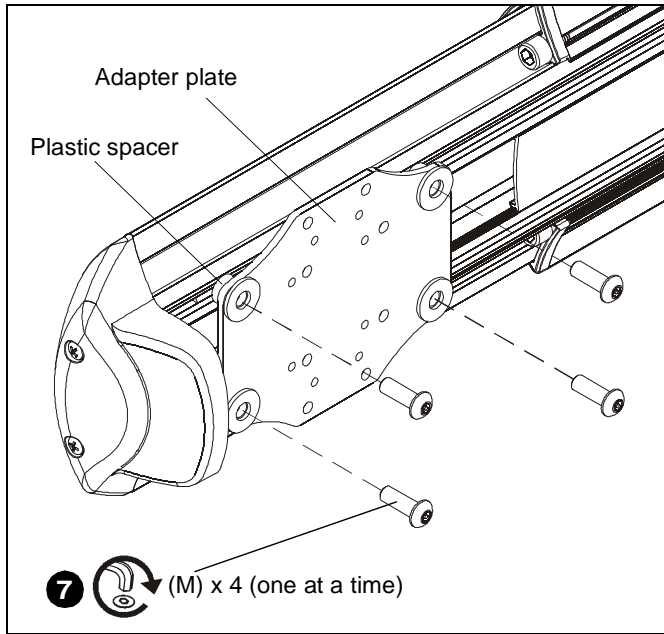

Figure 30
7. Install one 1/4-20 x 3/4" button head security screw (M) into hole vacated by removing bolt in Step 6 and into plastic spacer. (See Figure 30)